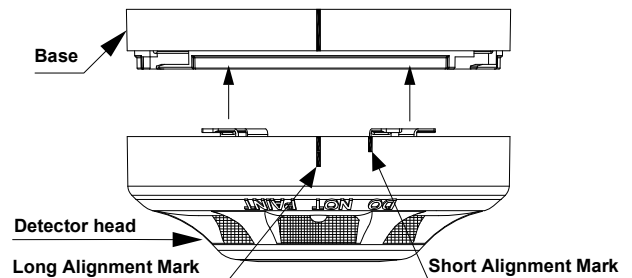

Fig. 2: Fitting the detector to the isolator base
1. Align the detector alignment mark with the short alignment mark in the base, as shown in Fig. 2.